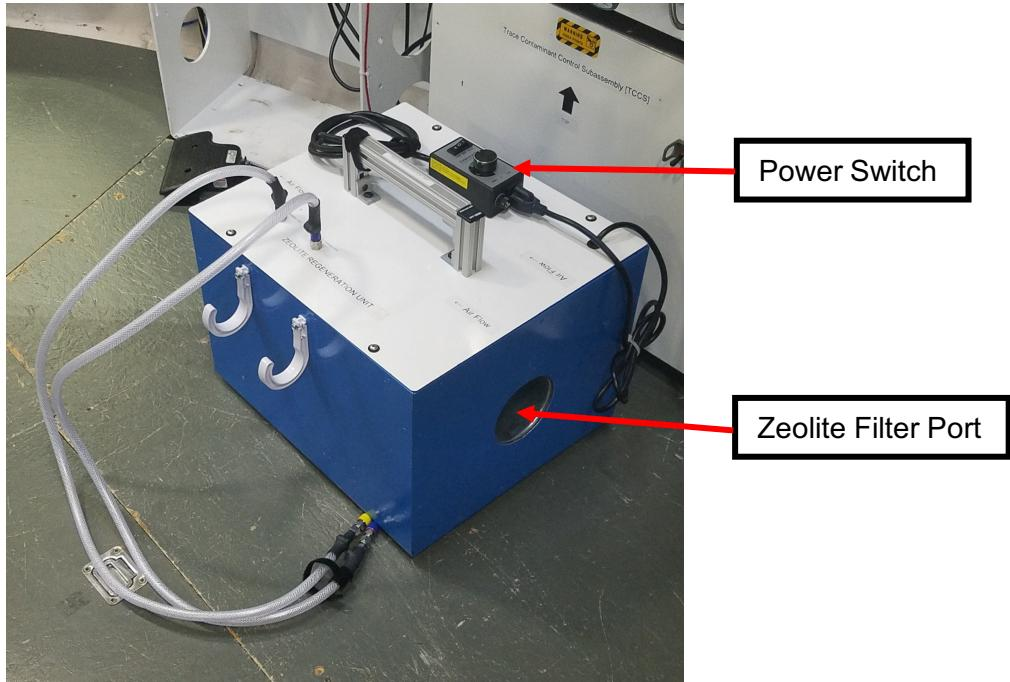
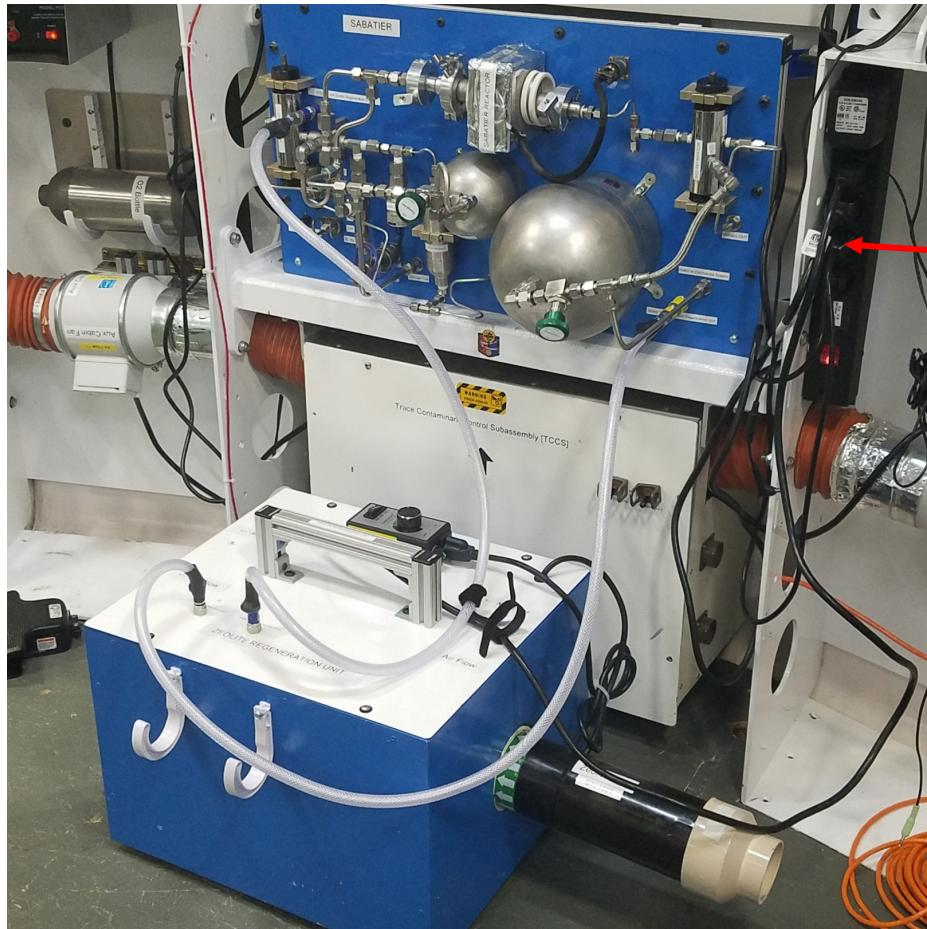

Figure 8: Zeolite Regeneration Unit (ZRU)
Figure 10: ZRU Unit Connected to Power Strip
- 8.1 Move Zeolite Regeneration Unit (ZRU) in front of Sabatier. (see Figure 8)
- 8.9 Unfurl power cable and plug power cable into outlet strip on right of Sabatier. (see Figure 10)
- 9.3 Insert Zeolite 5A filter into ZRU port. (see Figure 8 and Figure 10)